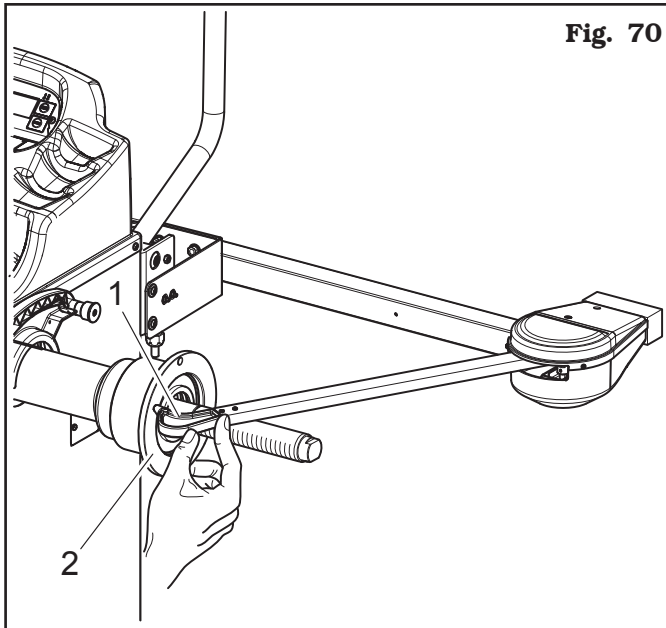

Fig. 70
Move the tip of the width measuring device (**Fig. 70 ref. 1**) in line with the outer surface of the flange (**Fig. 70 ref. 2**). The display screen D2 will show a bit value.